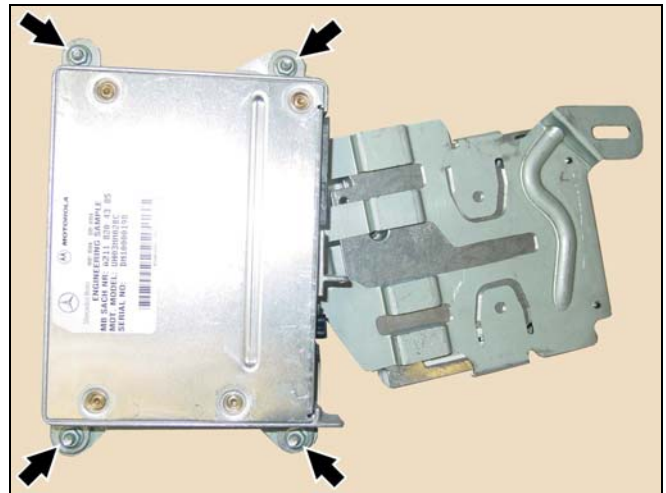

Figure 3
2. Mount the UHI control module to the threaded studs on the bracket backside with four M4 hex nuts (Figure 3).